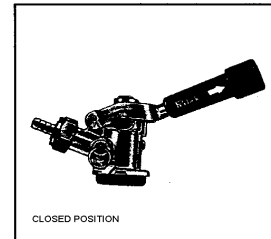

Figure 3
- Insert the keg coupler provided into the locking neck of the beer keg and turn it clockwise to lock into position, making sure the keg coupler is in the closed position. (See Figure 3)